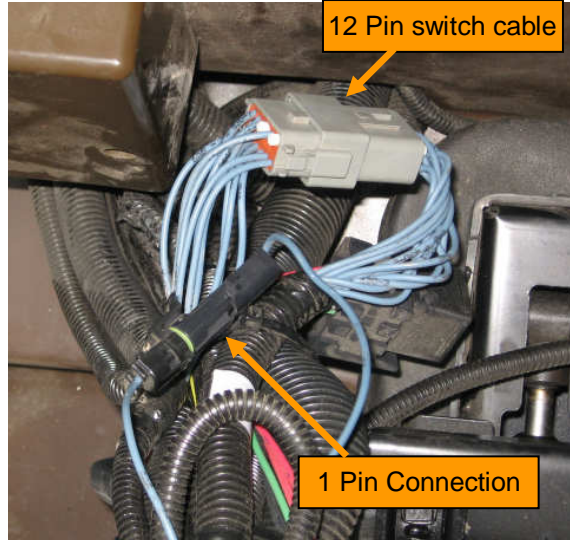

Fig. 3: 1 Pin foot switch connector
5. If your master boom switch is controlled by a foot switch, disconnect the 1 pin connector (Fig. 3.) located next to the 12 pin switch cable.